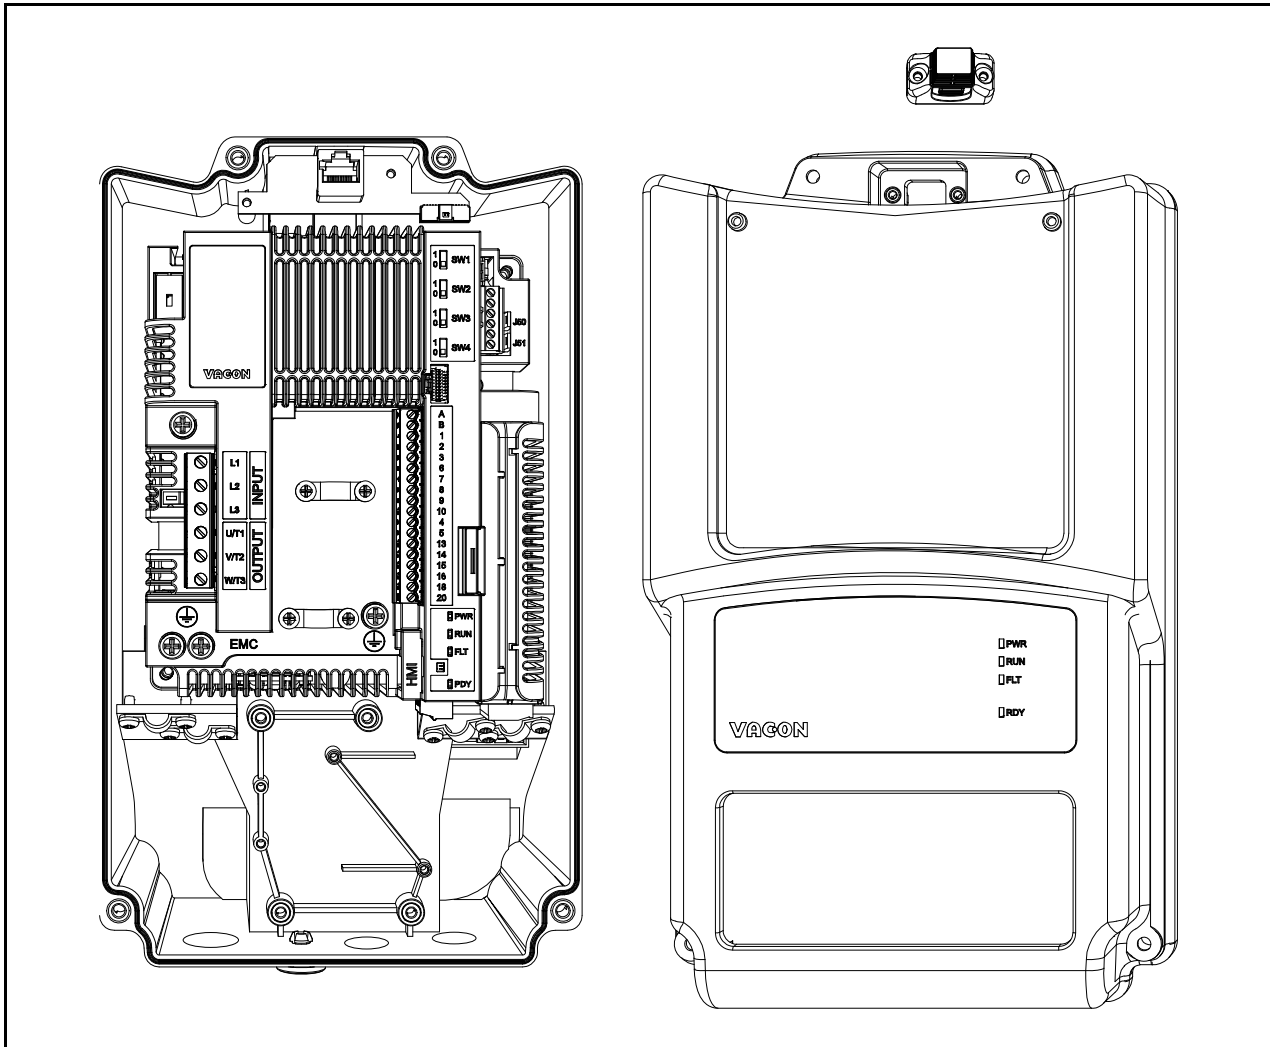

Figure 63. Cover open (MU2 3-phase example).
- Remove the HMI cap and the cover from the drive. See the Figure 63.